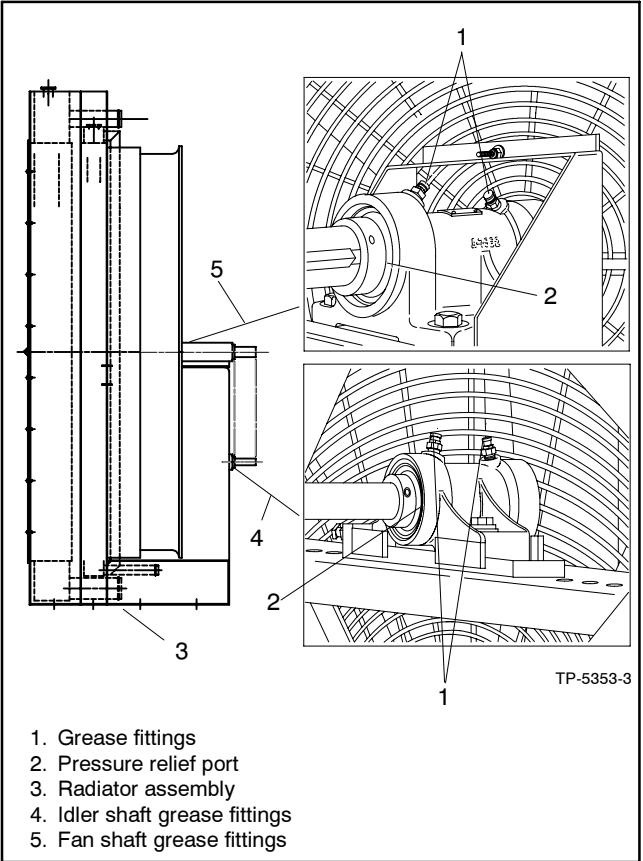

Figure 3-13 Radiator Fan Bearings and Pressure Relief Ports, Typical
4. Inject grease into the two bearings on the fan shaft block and the two bearings on the idler shaft block using a grease gun until a 3–6 mm (0.13–0.25 in.) grease column shows at the bearing pressure relief port. See Figure 3-13.